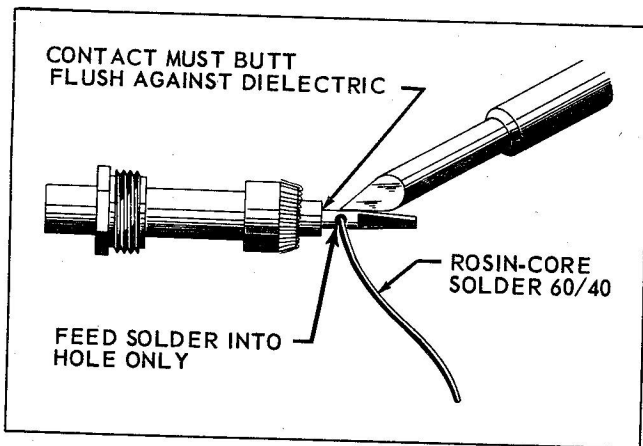

Figure 4-12. Soldering Contact to Coaxial Cable
4-23. Solder contacts (male or female) to center conductor with clean, well tinned, soldering iron using 60/40 tin-lead, rosin-core solder. See Figure 4-12. Do not apply heat too long as this will swell the dielectric and make it difficult to insert into the body shell. After soldering, if there is excess flux on outside of contact or dielectric, remove it with denatured alcohol. Do not allow solder to flow over outside of contact.
- j. Slip contact over center conductor so that contact butts flush against dielectric. Solder using a clean, well tinned, soldering iron: contact must still be flush against dielectric after solder has cooled; if it is not, remake the joint. See Figure 4-12.
j. Slip contact over center conductor so that contact butts flush against dielectric. Solder using a clean, well tinned, soldering iron: contact must still be flush against dielectric after solder has cooled; if it is not, remake the joint. See Figure 4-12.